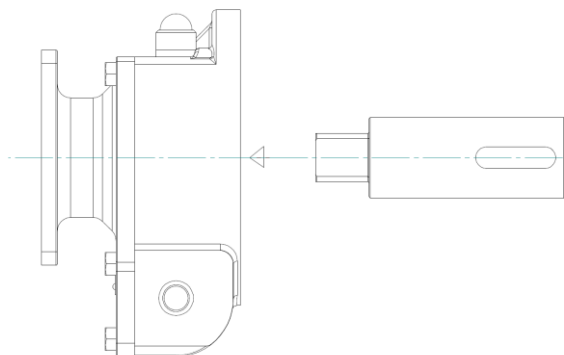

Figure 4: assembly of driveshaft into gearbox ILG/S
7. The use of a gasket between the flange of the valve and gearbox is recommended. Put the driveshaft from the bottomside into the gearbox (see figure 4). The size and shape of the connections of the driveshaft and the gearbox can differ from figure 4.